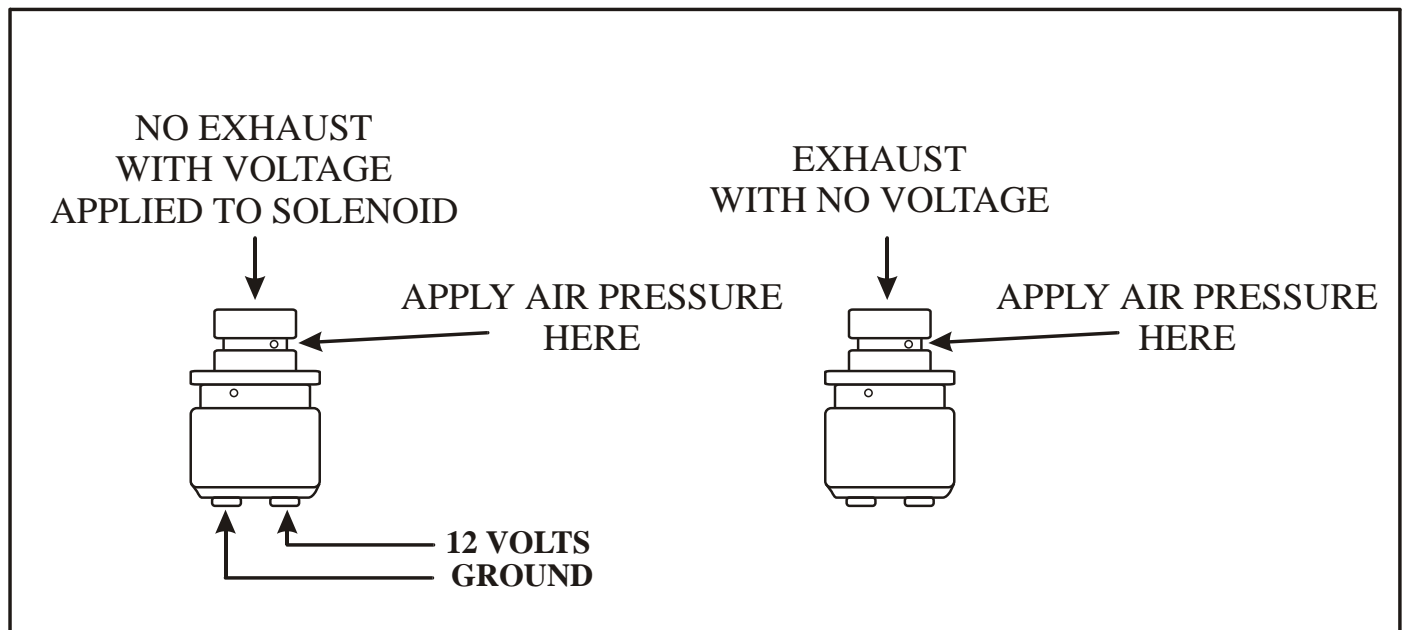

Figure 1
- 1) The proper air test procedure is shown in Figure 1. You must use no more than 70psi. when checking the lock-up solenoid or else the results will not be valid. Ohms check the solenoid across the two terminals as shown in Figure 2. There should be 25 - 40 ohms of resistance across both terminals but no continuity to the solenoid body..